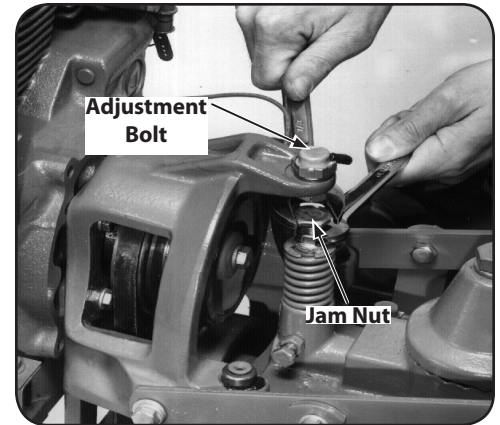

Figure 5-23
5. Place a $\frac{7}{8}$ " wrench on the head of the reverse adjustment bolt and a $\frac{9}{16}$ " wrench on the jam nut below it. See Figure 5-23. Hold the bolt steady while loosening the jam nut three or four turns.
7. Check that the reverse disc is at least $\frac{3}{16}$ " away from the transmission drive pulley. Then hold the reverse adjustment bolt steady with one wrench while tightening the jam nut with a second wrench. See Figure 5-23.